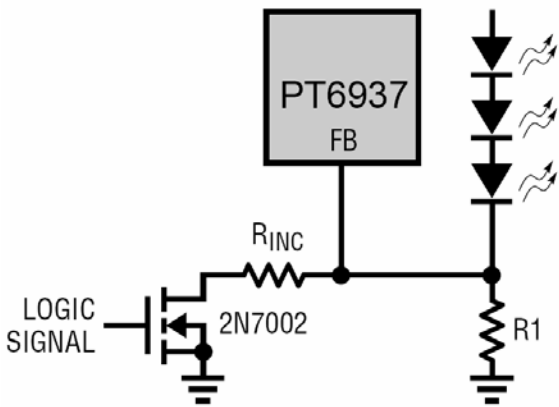

Figure 9: Dimming Control Using a Logic Signal
For applications that need to adjust the LED current in discrete steps, a logic signal can be used as shown in Figure 9. R1 sets the minimum LED current (when the NMOS is off). RINC sets how much the LED current increases when the NMOS is turned on. The selection of R1 and RINC follows formula (1) and Table 4.